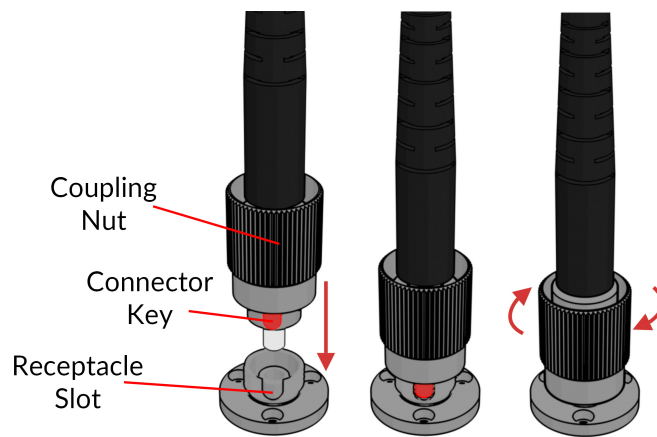

Figure 2.2: FC connector, Fiber Installation
2. With an FC connector, the connector key must be oriented to enter within the receptacle slot to ensure proper connection (Fig. 2.2).